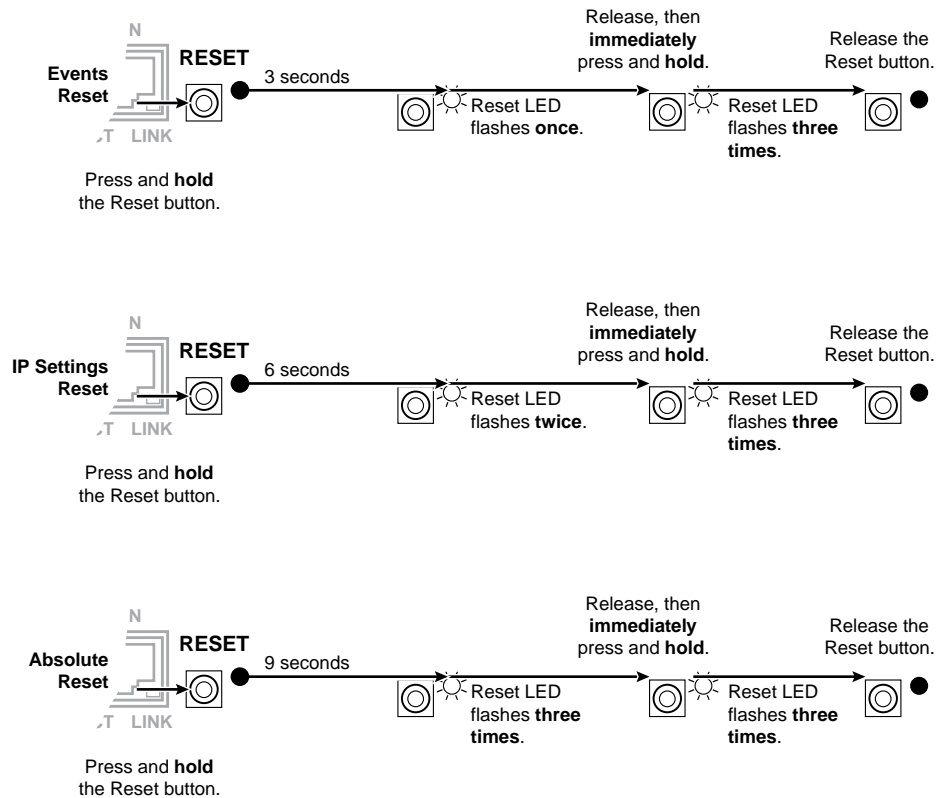

Figure 22. Soft System Resets
1. Use an Extron Tweaker or other small screwdriver to press and **hold** the rear panel Reset button (see figure 22) until the rear panel Reset LED and the front panel Preset and View buttons blink once (events reset), twice (IP settings reset), or three times (absolute reset).